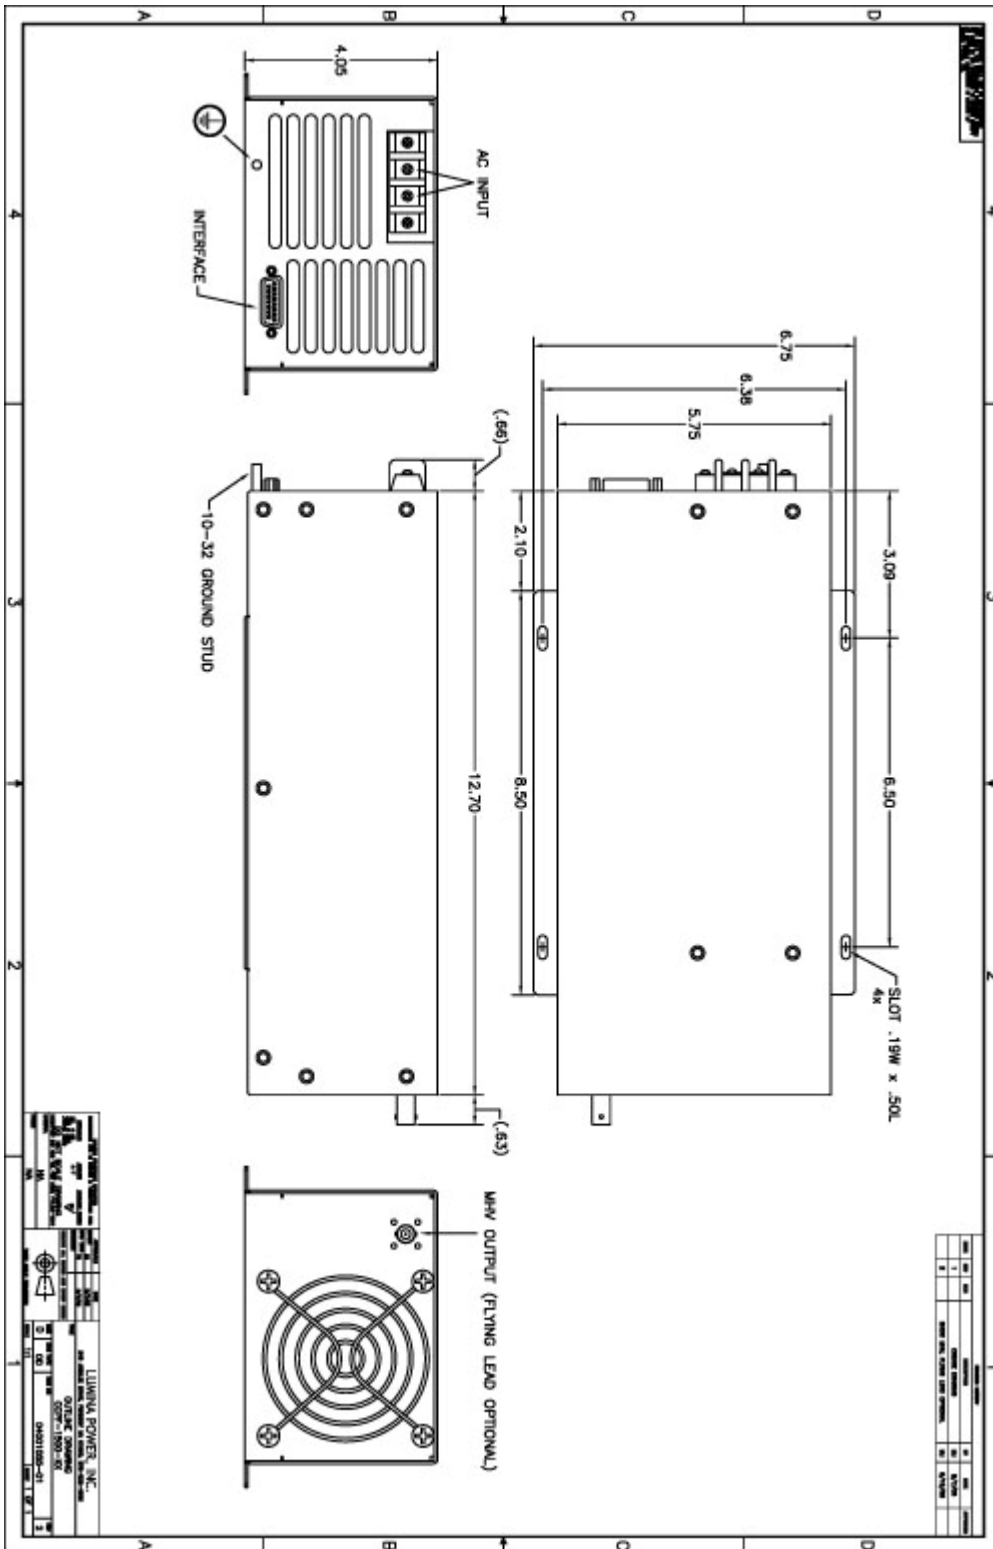

Figure 7.1 CCPF-1500/2000-XX Outline Drawing
- **Required wire and connectors:** Refer to the Figure 7.1 below for the locations of connections. Table 7-1 below shows required cables and connectors:
- **Mounting of chassis:** Refer to Figure 7.1 below for location of four mounting holes in the power supply flanges.